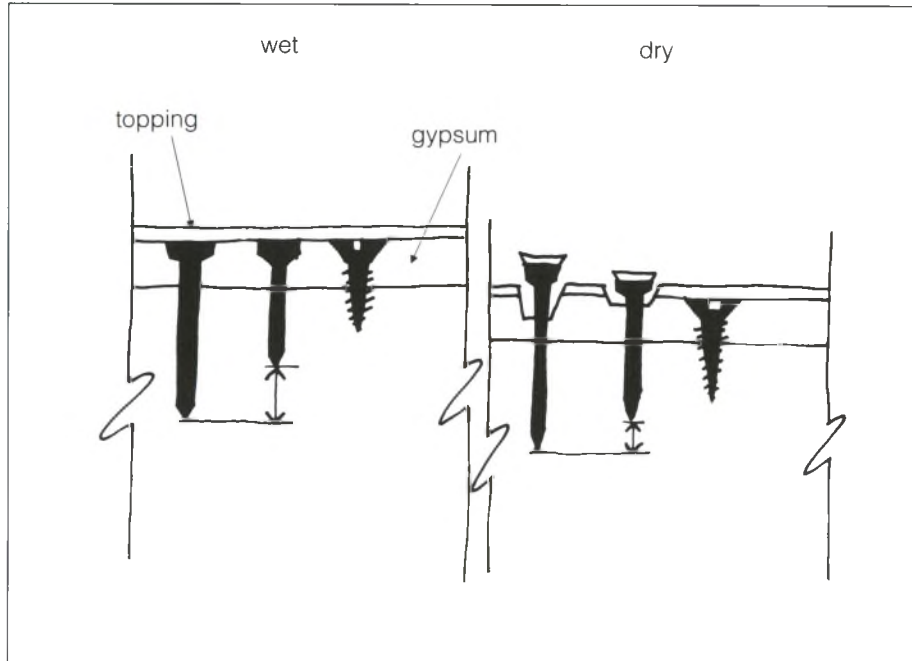

Fig. 4. Nail popping (exaggerated)
Longer fasteners actually worsen the problem of nail pops, since shrinkage takes place over a greater length of nail (fig. 4).
- Use code minimums: 32 mm (1-1/4") for nails and 29 mm (1-1/8") for screws with 13 mm (1/2") board (fig. 4).